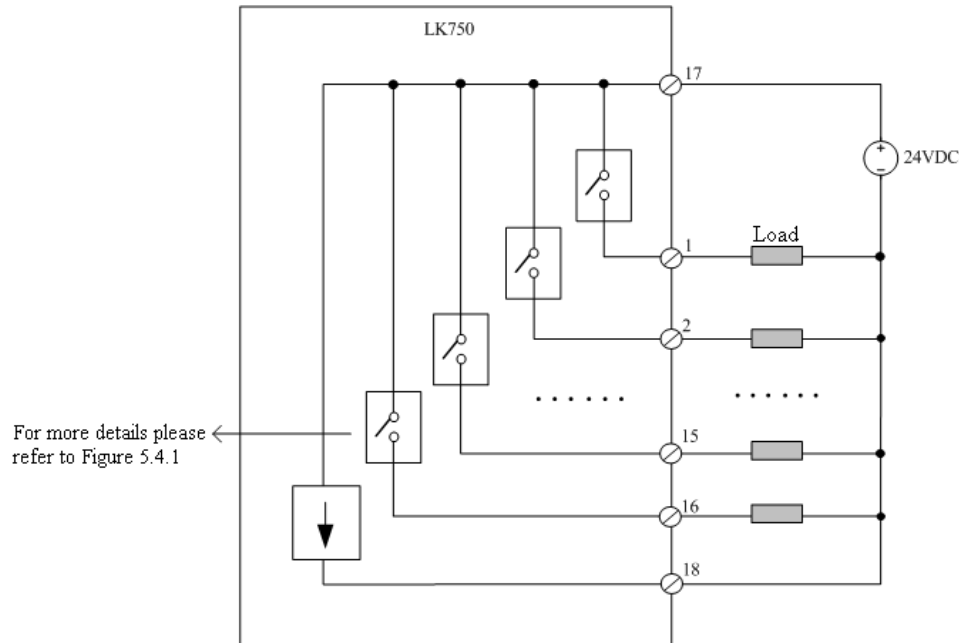

Figure 11.41: LK750 Channel Wiring to Backplane Terminals
- LK750 module is connected to field signals through the correspondence terminals under the local backplane installation slot. The relationship between each channel and terminal is shown in Figure 11.41. One ends of the 16 channel loads connect to the wiring terminals (01~16) of the correspondence channels while the other ends connect to the negative end of field power supply.